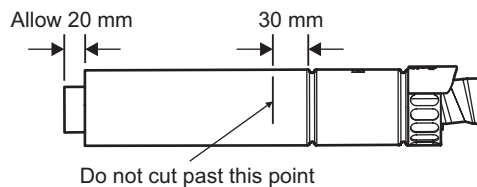

**Fig. 5 - Rear flue**
- Note:** Check the flue terminal protrudes 120 mm out of the wall and the inner duct of the terminal is positioned correctly (see Fig. 5).